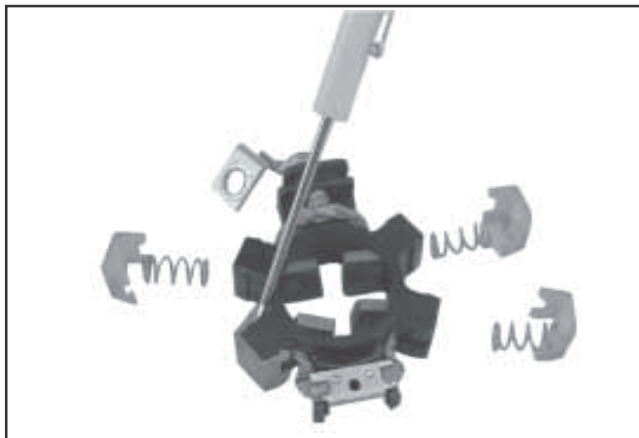

Figure 7-40. Removing Retaining Clips.
- a. Carefully unhook the retaining caps from over each of the brush assemblies. Do not lose the springs. See Figure 7-40.